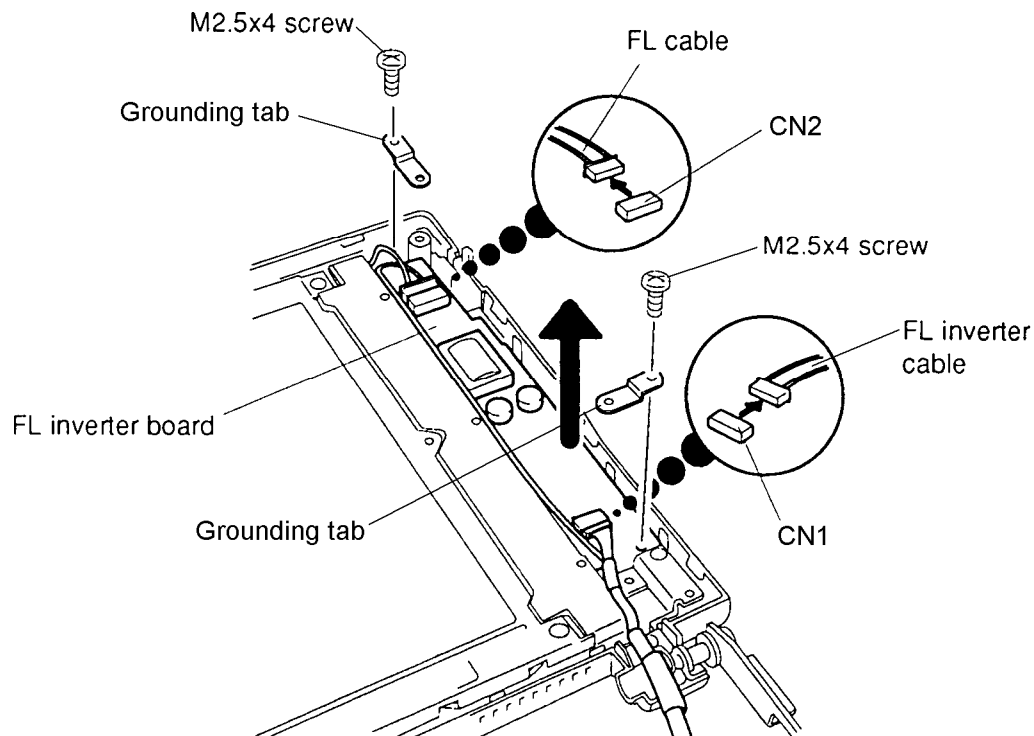

Figure 4-42 Removing the T4500/T4600 FL Inverter Board
To remove the Monochrome FL inverter board, follow the steps below and refer to Figure 4-42.
To install the T4500/T4600 FL inverter board, follow the steps below and refer to Figures 4-42 and 4-43.
1. Connect the **FL inverter cable** and **FL cable** to **CN1** and **CN2** on the **FL inverter board** (Figure 4-42).